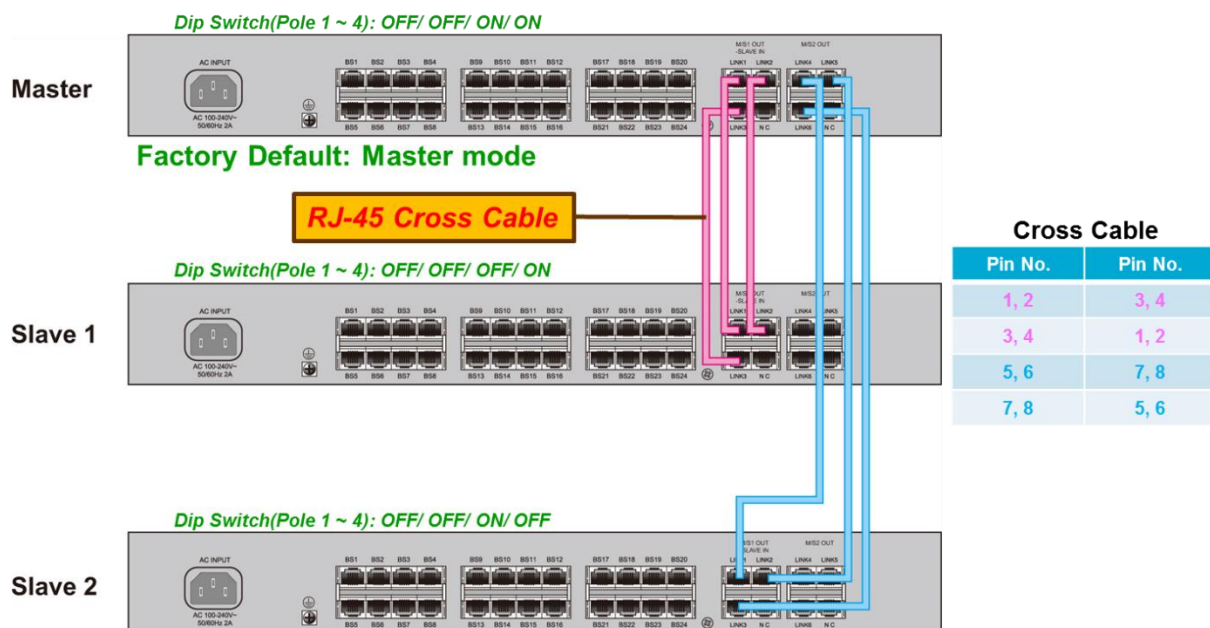

Figure 6.17-2 Multiple connections of WTIM24
Up to three (3) WTIMs may be interconnected to allow handover between the connected Base Stations. Wiring for this connection is shown in figure 6.17-2 below.